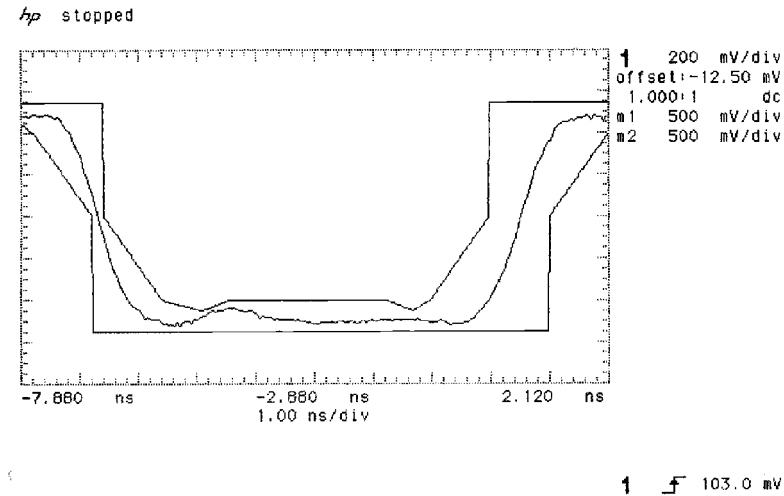

Figure 3-12
40. Press SHIFT **AUTOSCALE** on the oscilloscope to automatically align the pulse to the mask. Verify that the pulse falls within the mask as shown in Figure 3-12.